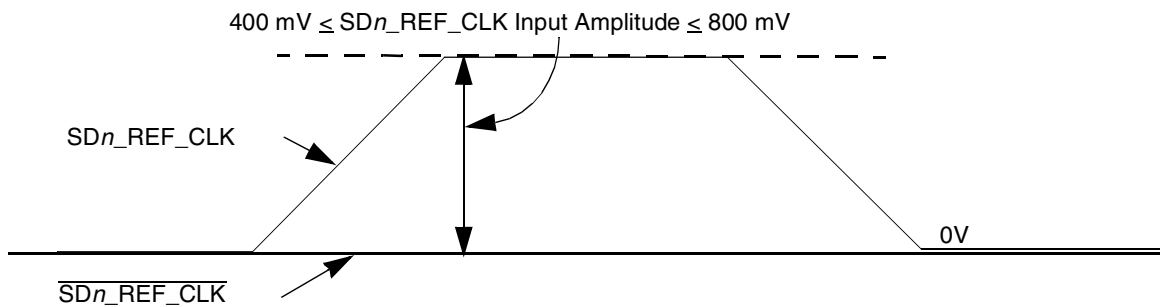

Figure 61. Single-Ended Reference Clock Input DC Requirements
- The SDn\_REF\_CLK input average voltage must be between 200 and 400 mV. Figure 61 shows the SerDes reference clock input requirement for single-ended signaling mode.